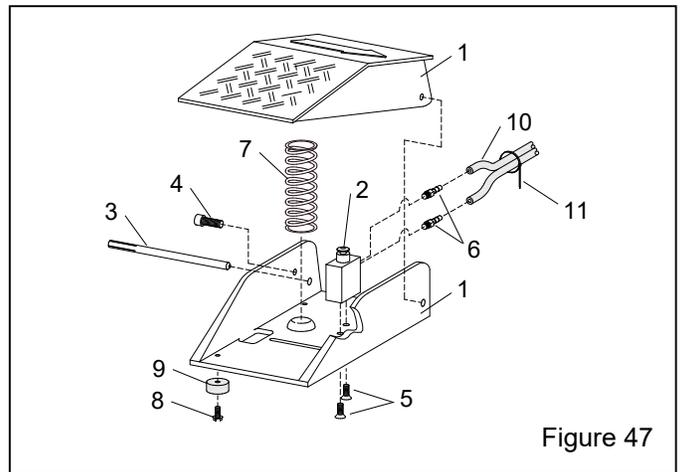

Figure 47
**9.5 Foot-Pedal Assembly – Figure 47**